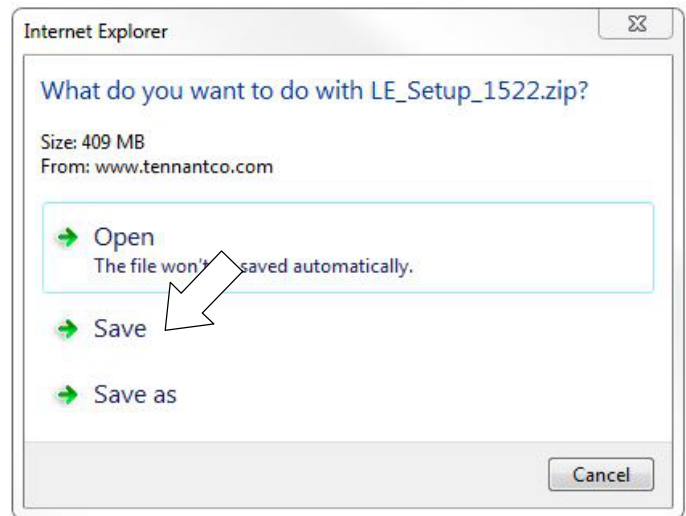

Fig. 37
5. To download the service software continue to click as instructed then click the Save button (Figure 37).